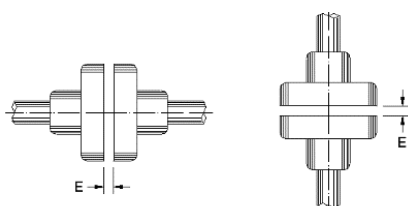

Figure 4.12: Axial clearance of the coupling (E)
Align the shaft ends carefully, and, whenever possible, use flexible coupling, leaving a minimum clearance (E) of 3 mm between the couplings, as shown in Figure 4.12.